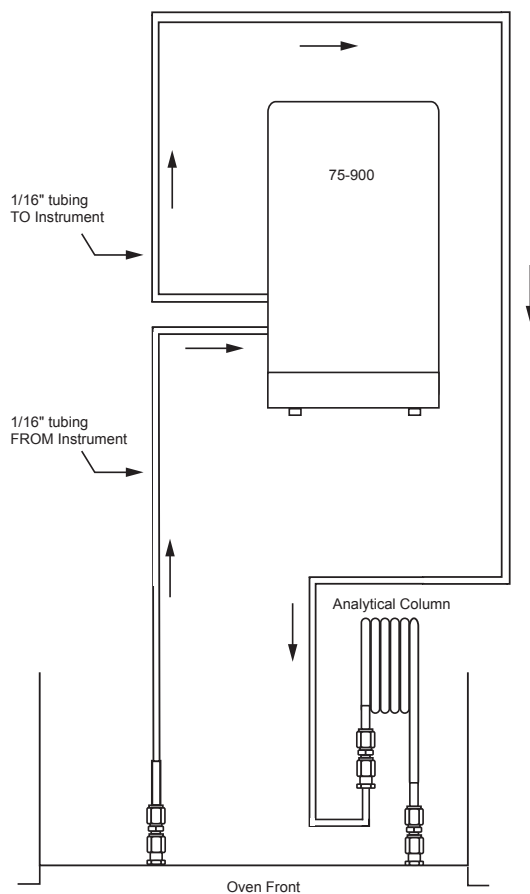

Figure 5: Series 590 DID GC without Pre-column
- B. Instruments Without A Pre-column (Series 590 DID GC Systems 1, 7, 8, 10, 11, 12, 16, & 17) Refer to Figure 5.